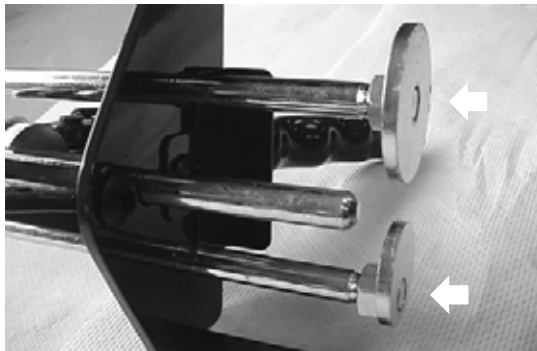

Figure 4: Plungers in manual gun (see arrows)
2. Insert the cartridge assembly: remove the “D” shaped plugs from the cartridge, keep in a safe place for re-storage. Place the open end of the cartridge assembly over the piston pads. Be careful to align the pads in the centre of the cartridge plungers. See Figure 4.